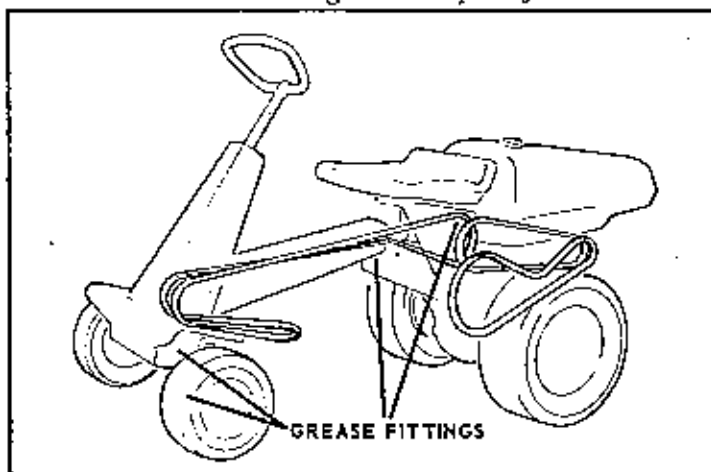

FIGURE 2
3. Apply a shot or two of grease to the two front wheel spindle housings, wheel hubs, transmission input pulley and intermediate pulley assemblies (Fig. 2).
2. Grease all fittings every 5 hours of use. See Fig.2